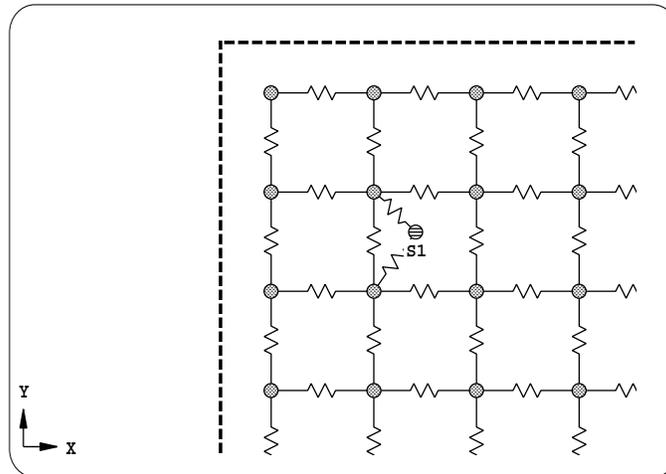

Figure 2-5: Zooming in on the footprint heat source
*Move the cursor (arrow) to the right and down. As you move the cursor, a rectangle will be drawn to indicate which elements will be contained in the new window. Keep moving the cursor until the rectangle encloses about 16 of the nodes around the heat source. Then click the mouse. The new window will appear similar to Figure 2-5 on the next page.*